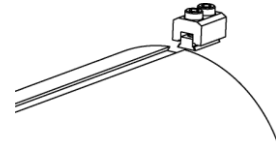

Fig. 1
- Fig. 1 – Core Stop (Dovetail):** Loosen – do not remove – the two socket head capscrews in the top piece of the core stop. Slide the dovetail into the groove in the shaft until it is aligned as required for your application. Tighten the bolts to 55-60 in·lbs.